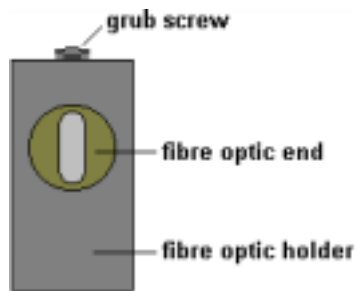

Figure 86 Left holder grub screw
10. Turn the fibre until it is vertical and tighten the grub screw, as shown in Figure 86.